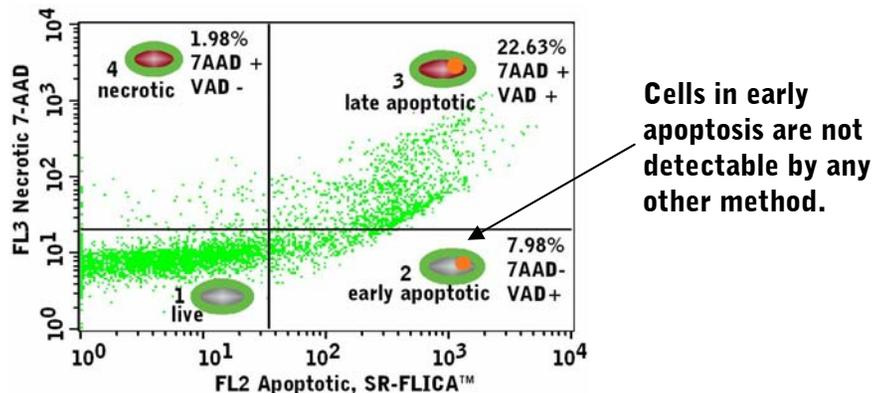

Figure 11: A dot plot of FL2 (SR-FLICA™) vs. FL3 (7-AAD) reveals 4 populations of cells:
- Gating from R3, derive a plot of the poly caspases apoptosis reagent in FL2 (SR-FLICA™) vs. live/dead viability stain in FL3 (7-AAD) (Figure 11). This will allow researchers to include all apoptotic events in their analysis of total cytotoxicity based on the percentage of cells in each quadrant, leading to more accurate results (Figure 12).